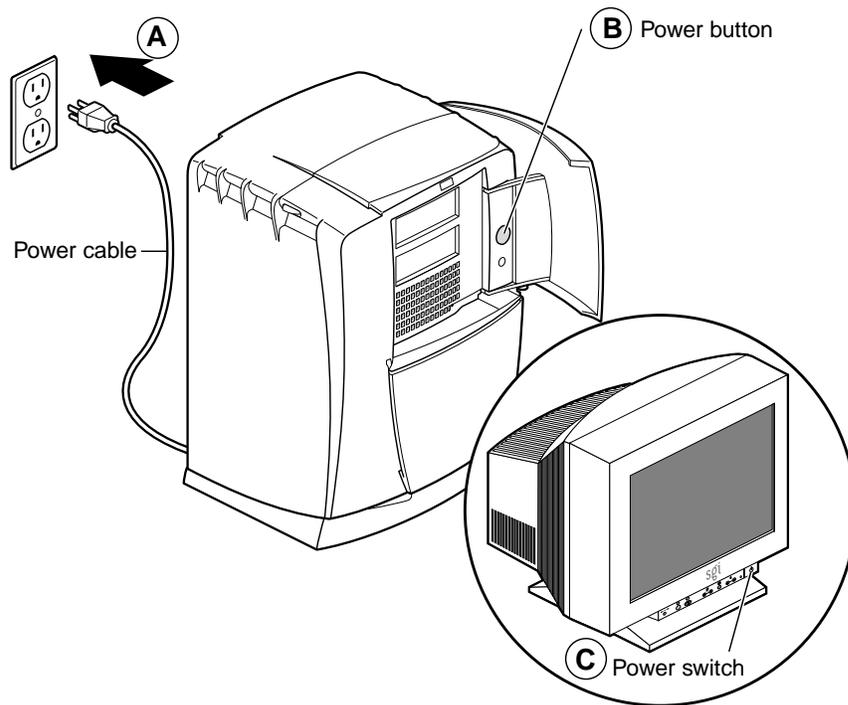

Figure 3-8 Powering On the Octane2 Workstation
1. Plug the power cable into an electrical outlet (see A in Figure 3-8).
2. Press the power button (B) on your workstation.
3. Press the monitor power button (C) to turn on your monitor.